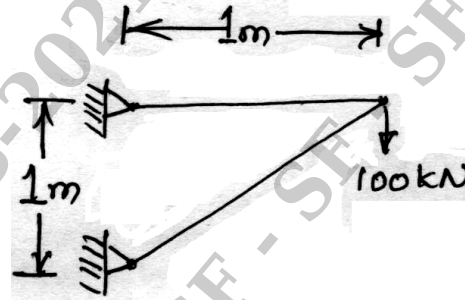

Fig Q6(b)
- b. Determine the nodal displacement and stress in each element for the truss shown in Fig Q6(b), Take $E = 210\text{GPa}$, $A = 0.01\text{m}^2$.